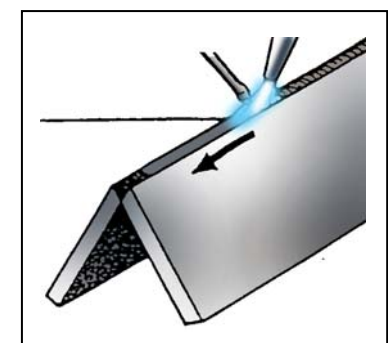

Figure 4
14. Continue moving the torch in the circular pattern and move the torch and rod forward at a speed that will keep the braze pool a uniform size and shape. Refer to Figure 4.